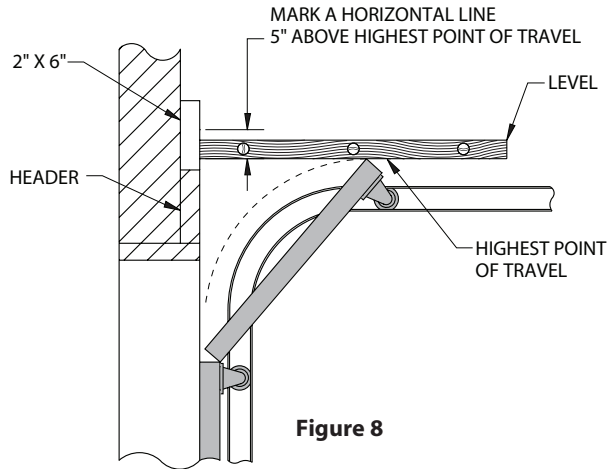

Figure 8
- 5) Use a level, as shown in **Fig. 8 (pg 4.6)** to find the highest point of travel for the the door.